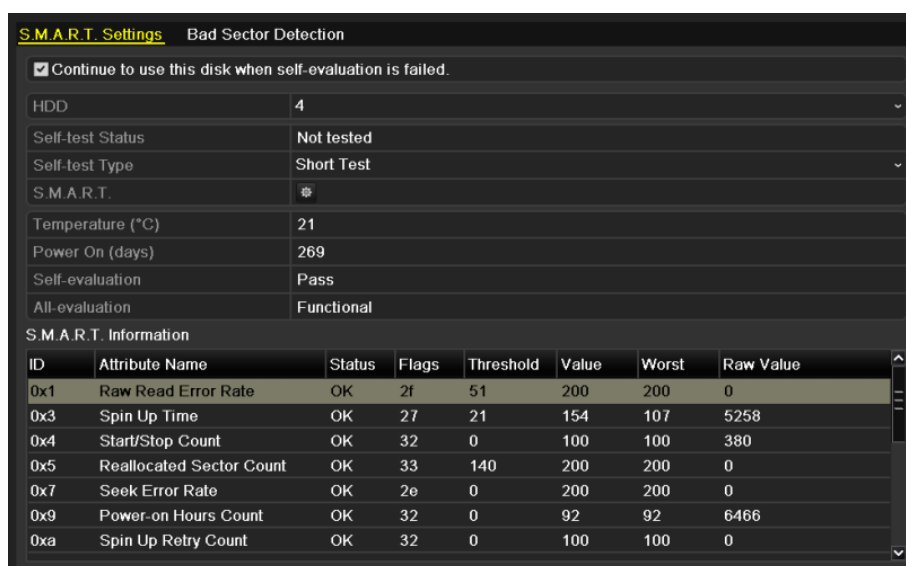

Figure 12. 27 S.M.A.R.T Settings Interface
2. Select the HDD to view its S.M.A.R.T information list, as shown in Figure 12. 27.